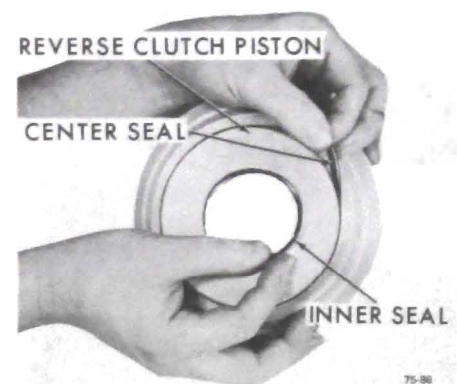

Figure 75-123
2. Remove low and reverse clutch piston center and inner seal. See Figure 75-123.